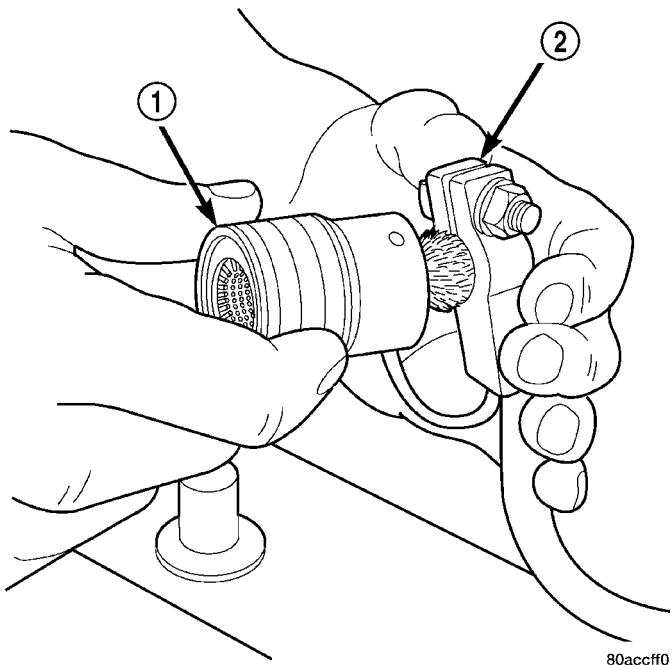

Fig. 1 Clean Battery Cable Terminal Clamp - Typical
(1) Clean the battery cable terminal clamps of all corrosion. Remove any corrosion using a wire brush or a post and terminal cleaning tool, and a sodium bicarbonate (baking soda) and warm water cleaning solution (Fig. 1).